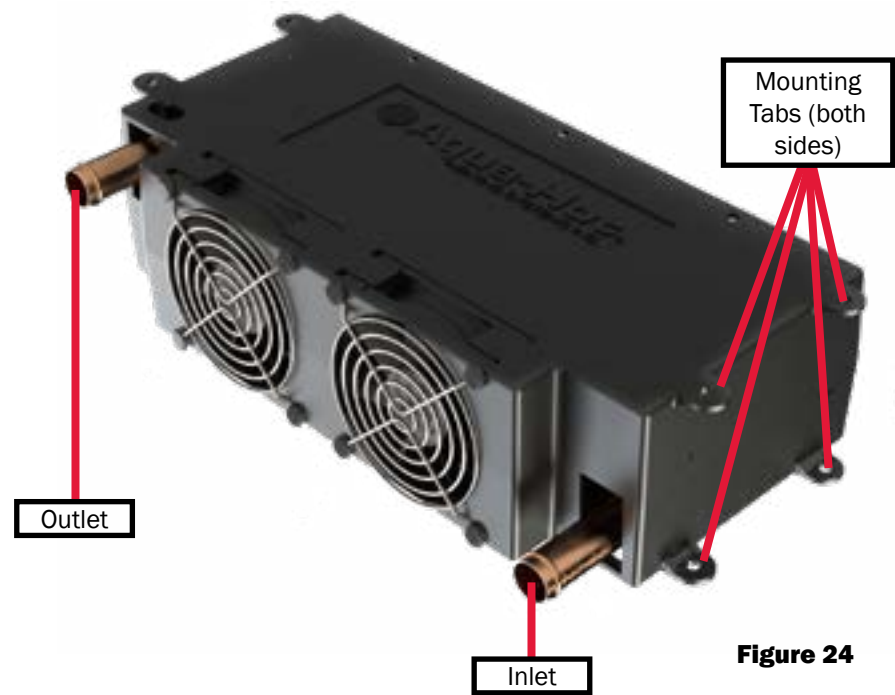

Figure 24
- The antifreeze and water heating solution must flow in through the bottom of the heat exchanger, and out the top (reference Figure 24).
- 2. Mount each heat exchanger permanently into place. There are 4 tabs on both sides - see Figure 24.